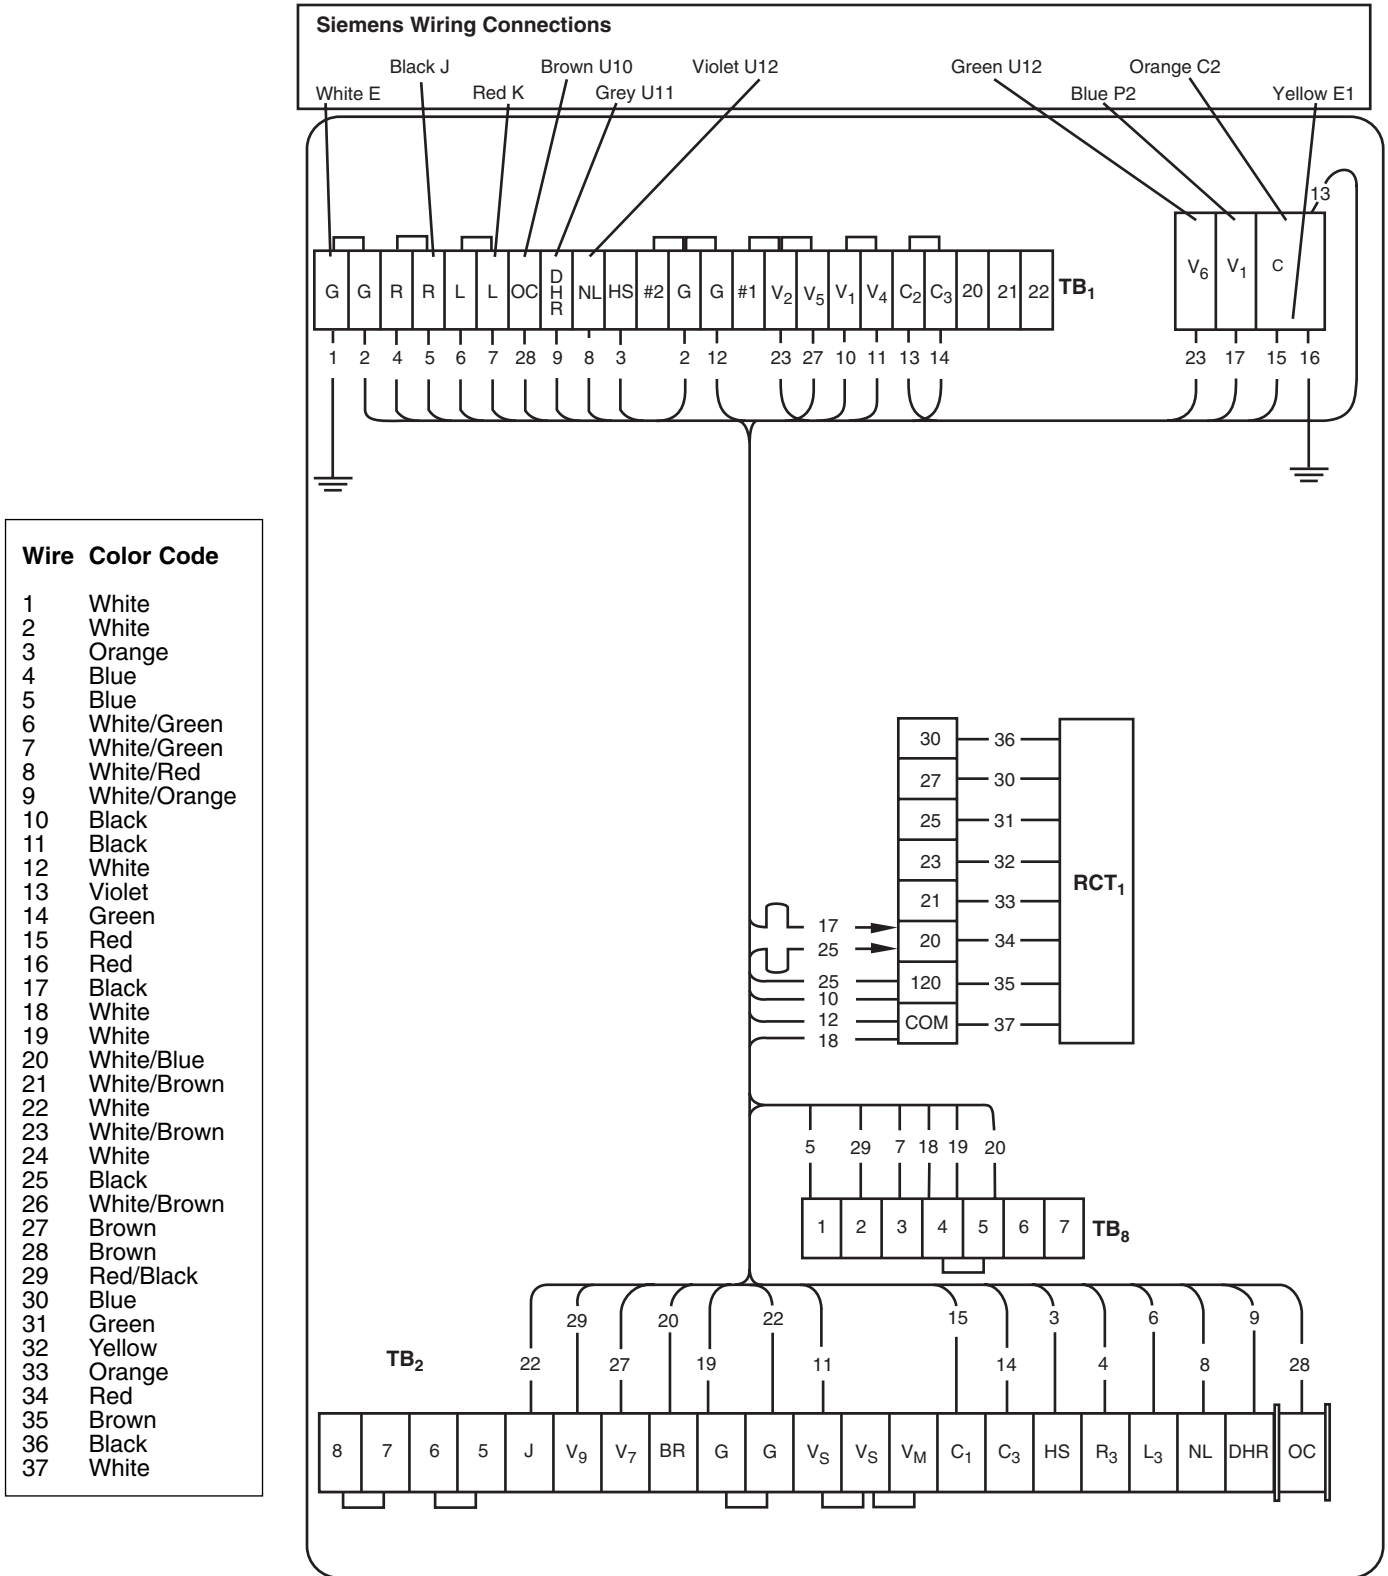

Figure 7.
A. If the regulator has a source-side control signal present and the back panel has two RCTs *OR* if the source-side supply is excitedly 120 V, the white/brown Number 23 lead can stay connected to the bottom of V₆ (as shown in Figure 7) and the internal source-side supply can be used for reverse power flow operation.